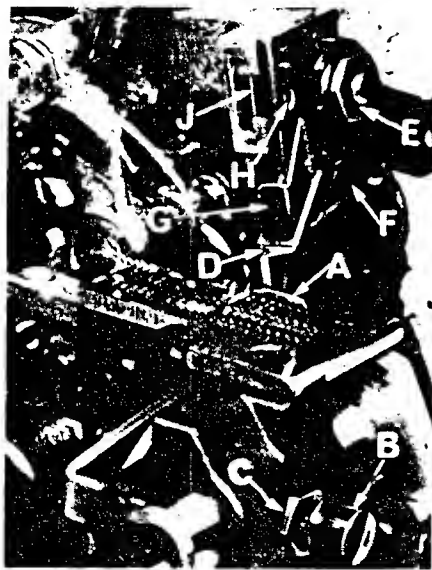

Fig. 13
Replace lower knife holder assembly. Lower knife (A, Fig. 13) should be set with cutting edge flush with throat plate surface. Adjustments are made with hexagonal head screw which holds lower knife. Lower knife is spring pressed against upper knife, so no lateral adjustment is necessary when width of trim is changed.
Replace upper knife assembly. Clamp upper knife (D, Fig. 13) in position, setting nut (E) to hold clamp (F) in its most clockwise position against upper knife. At bottom of its stroke, front cutting edge of upper knife should extend not less than $1/64$ inch (.40 mm) below cutting edge of lower knife. The chain guard (G) should be set down against the upper knife and slightly